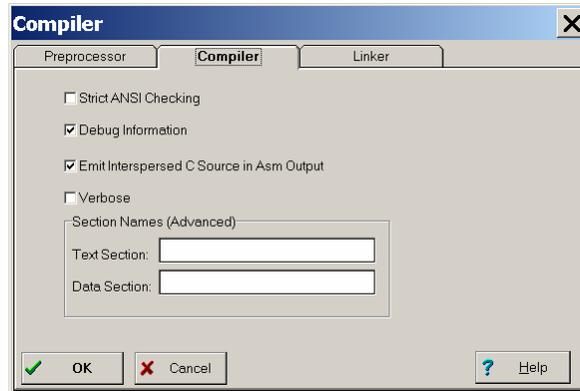

Figure 12. Standard Compiler settings for the IDE and MekArm™.
3. Select the Compiler tag to open the Compiler screen Figure 12.